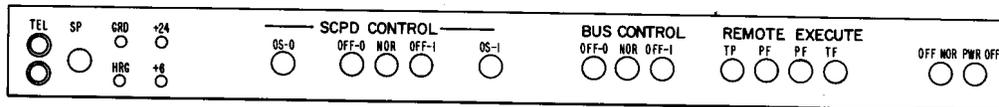

Fig. 4—SCPD Control Panel
2.03 On Table B notice that manual power removal, but not programmed power removal, causes the OFF NOR and PWR OFF lamps on the control panel (Fig. 4) to become lighted. Also, the manual ferroids are still saturated when the power removal is accomplished by the programmed method.
2.04 The SCPD CONTROL keys (Fig. 4) are the manual power-off for the controllers. These keys are used to control controller power on/off and have no effect on the associated bus receivers or power supply.
At SCPD control panel (Fig. 4)—